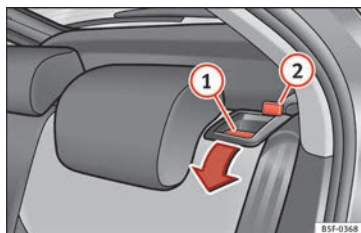

Fig. 110 Backrest release lever.
- Press the release lever » **Fig. 110 ①** in the direction of the arrow.
- Raise the backrest until it engages in its upright position » **⚠**. The red marking on the tab » **Fig. 110 ②** should no longer be visible when the backrest is properly secured.